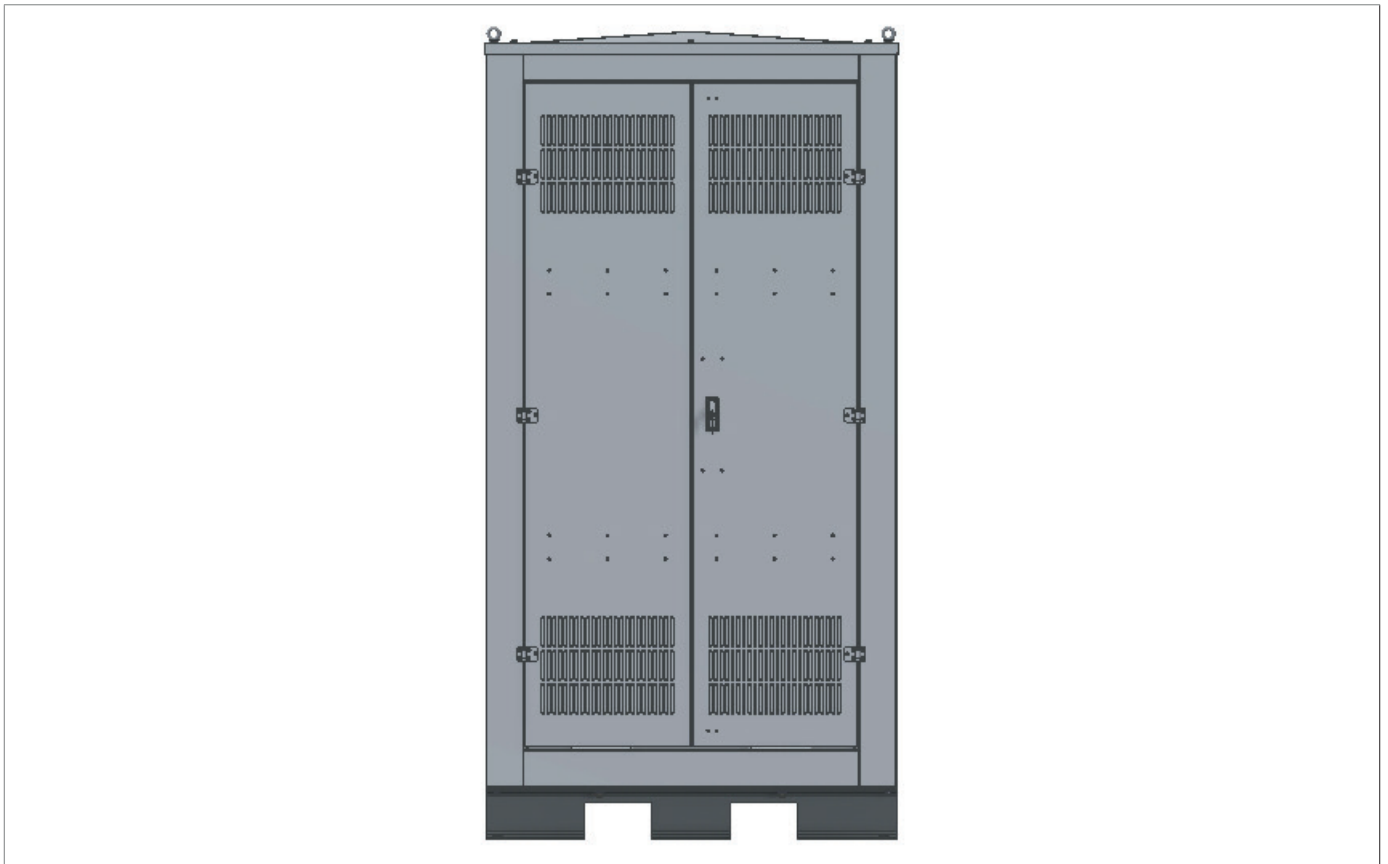

Fig. 4.21. Outdoor frame
- with an external frame (Fig. 4.21), this method requires fixing to the ground.